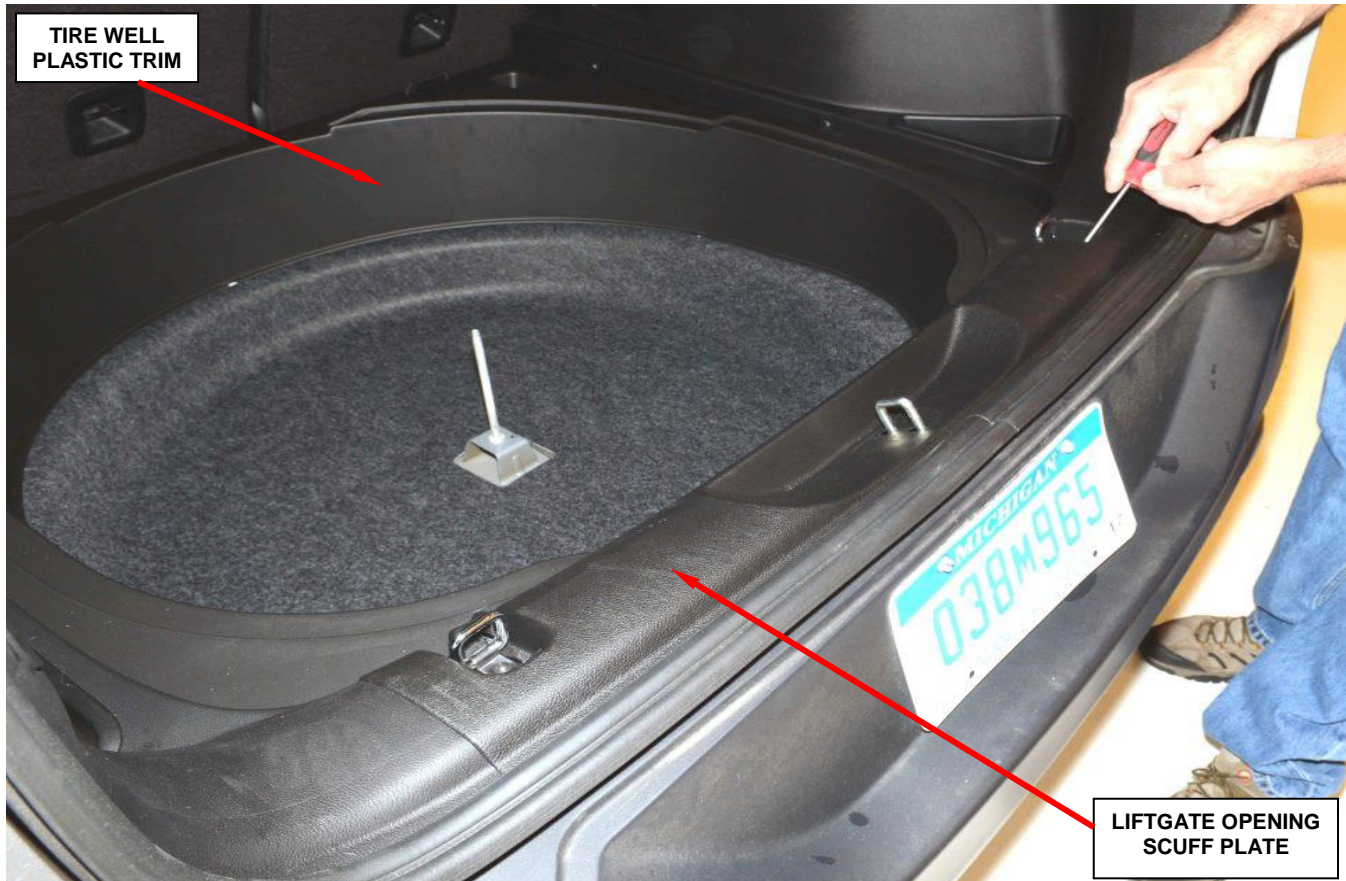

Figure 3 – Scuff Plate and Tire Well Plastic Trim
8. Remove and save the liftgate opening scuff plate (Figure 3).
9. Remove and save the tire well plastic trim (Figure 3).